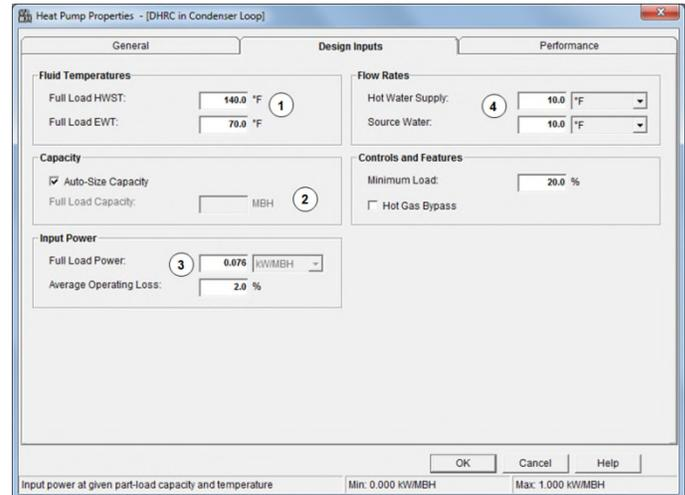

Figure 5.
- On the Design Inputs tab go to the Fluid Temperatures section (see “1” in Figure 5) and specify the design hot water supply temperature (HWST) for the heat pump. This is the leaving water temperature from the condenser. Figure 5 shows an example where the HWST is 140 F (60 C). Also specify the source entering water temperature (EWT). This is the temperature of condenser water entering the DHRC at design. Figure 5 shows an example where this temperature is 70 F (21.1 C). This example value is based on a 60 F minimum ECWT and 10 F delta-T for the condenser water loop.
- In the Capacity section (2) specify autosized capacity or directly specify the full load heating capacity of the heat pump.
- In the Input Power section (3) specify the full load input power in terms of kW input per MBH of heating output (kW input per kW heating output in Metric).
- In the Flow Rates section (4) specify the hot water supply flow. This is the hot water flow through the condenser. Also specify the source flow. This is the cold water flow through the evaporator. A required water delta-T can be defined as shown in Figure 5 and HAP will calculate the flow, or the flow rates can be directly specified in gpm or L/s.